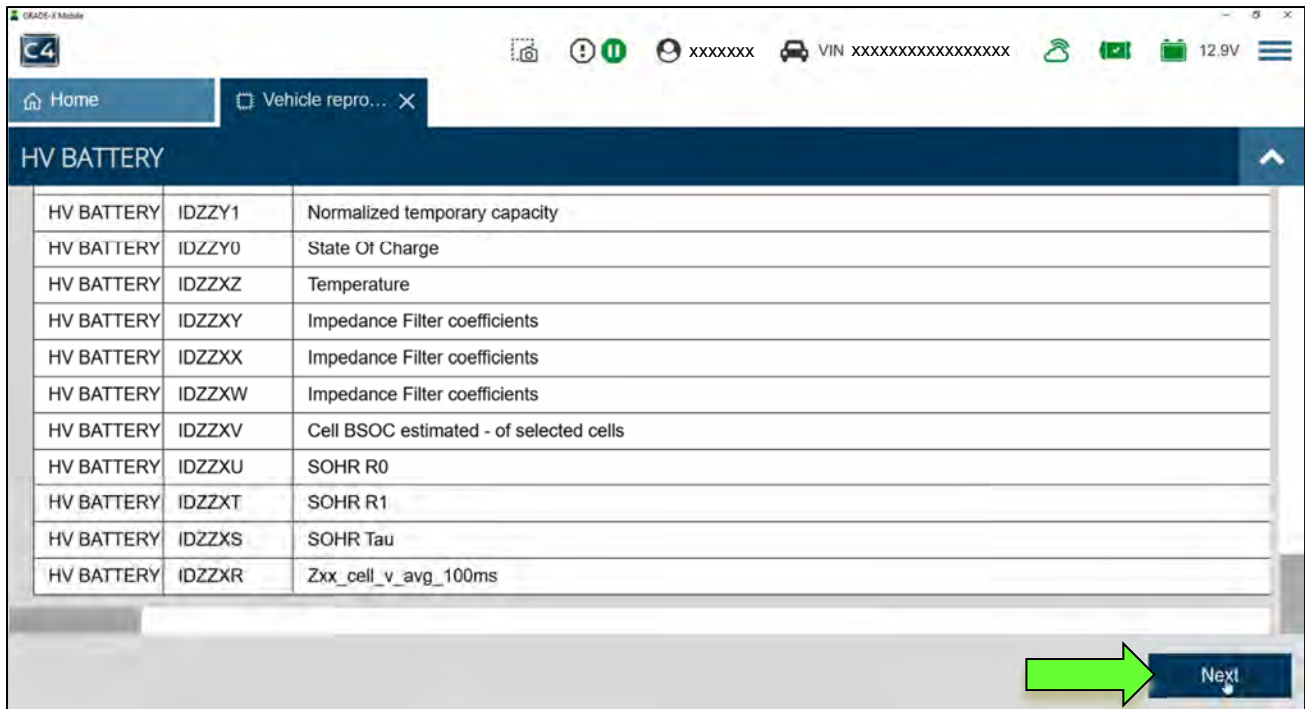

Figure 23
43. When the screen in Figure 23 is displayed, select **Next**.